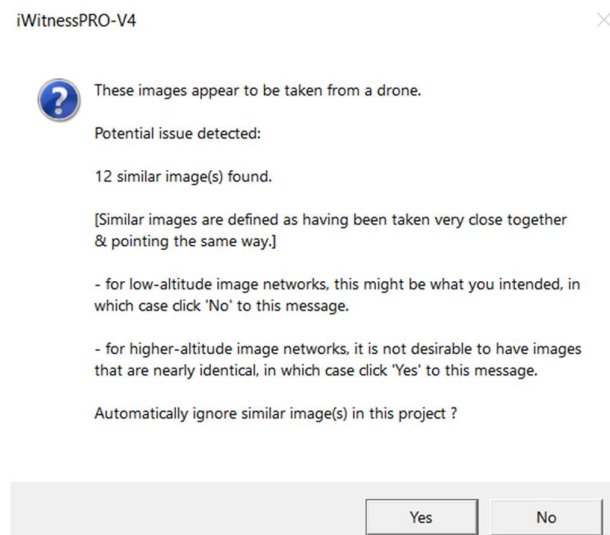

Figure 4
- i) Initiate an *iWitnessPRO* project and import the images. Upon import, the screen message shown in Figure 4 may appear. The User can respond with a **NO**, because this message relates more to image networks where the drone is flown at heights of greater than 10 – 15m.